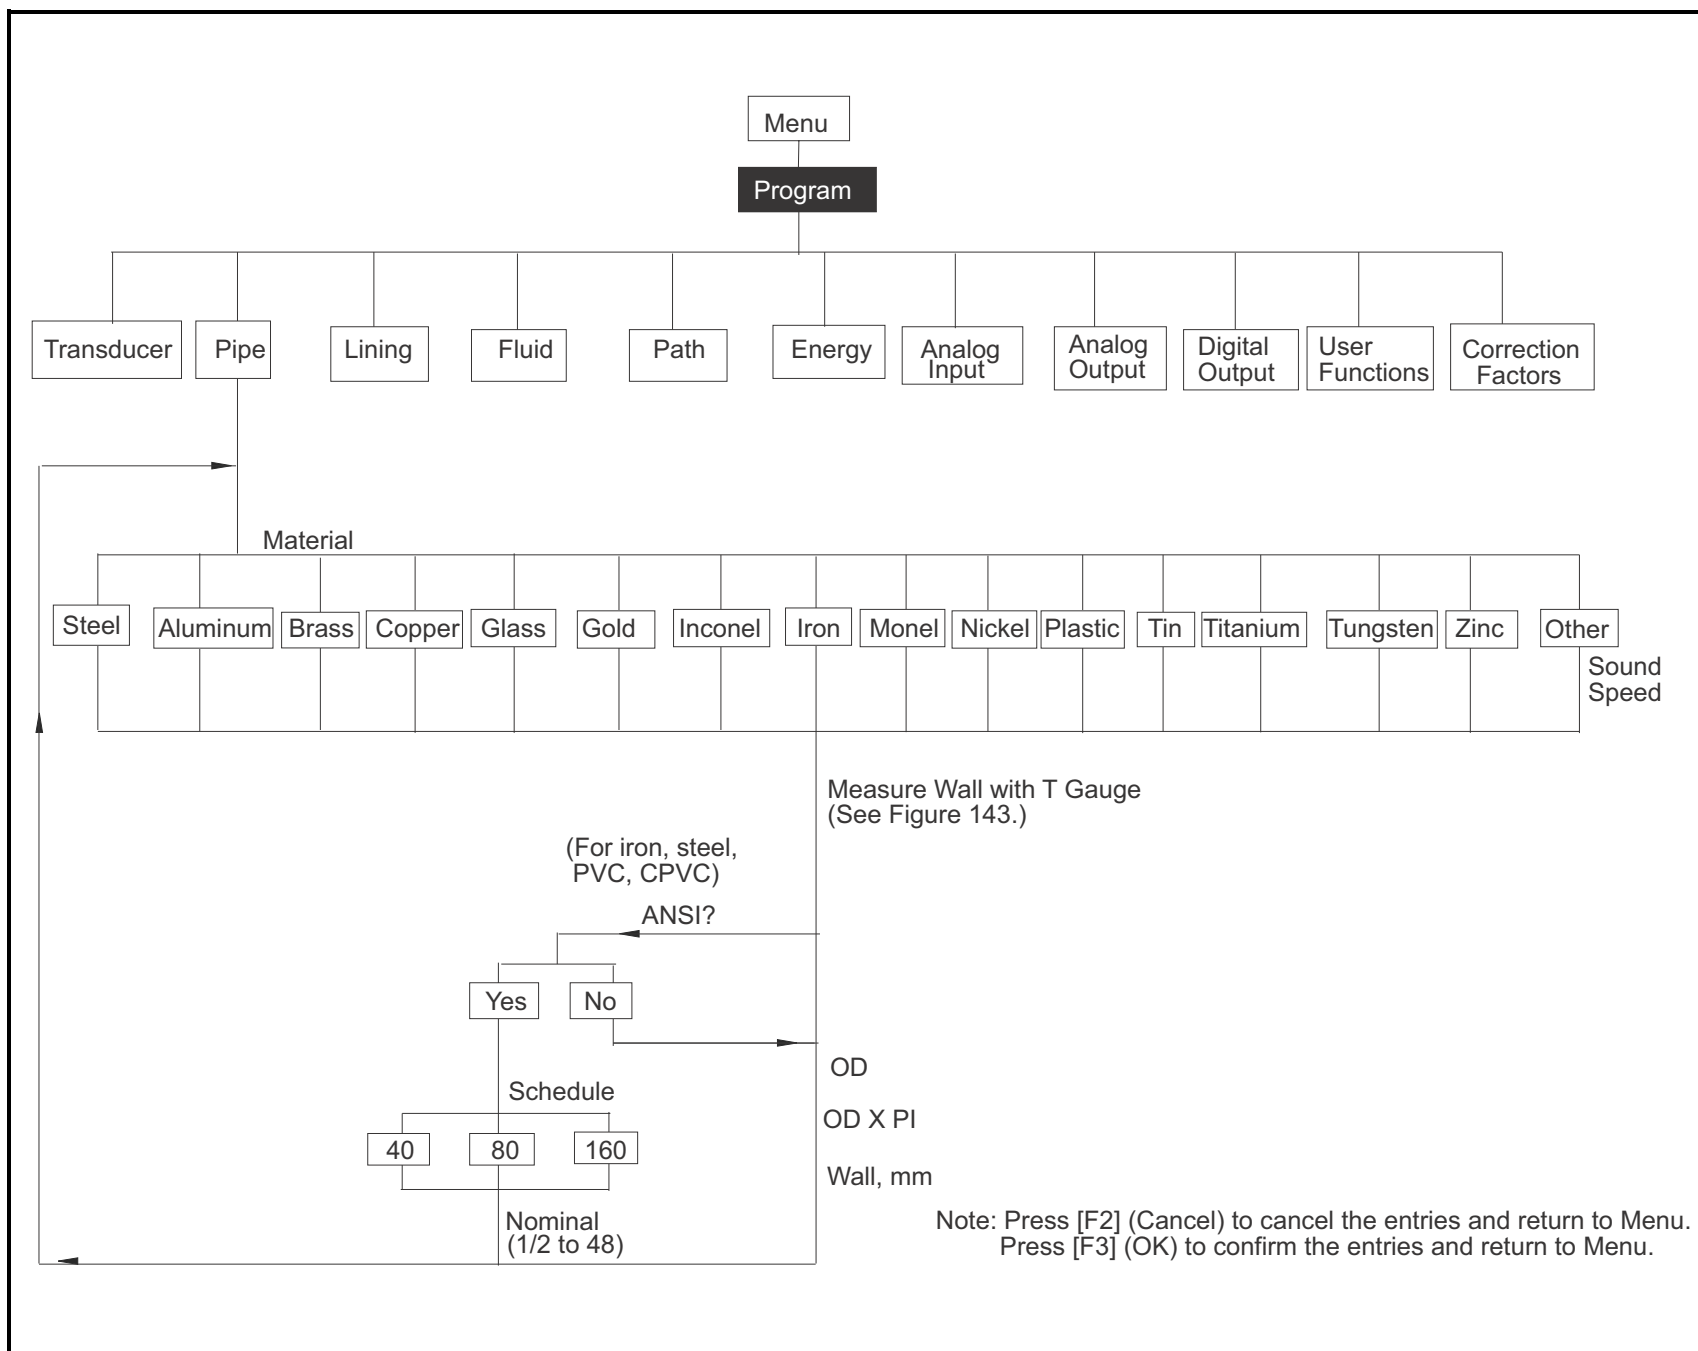

Figure 139: Program Menu with Pipe Option
- Pipe Option - Figure 139 on page 222